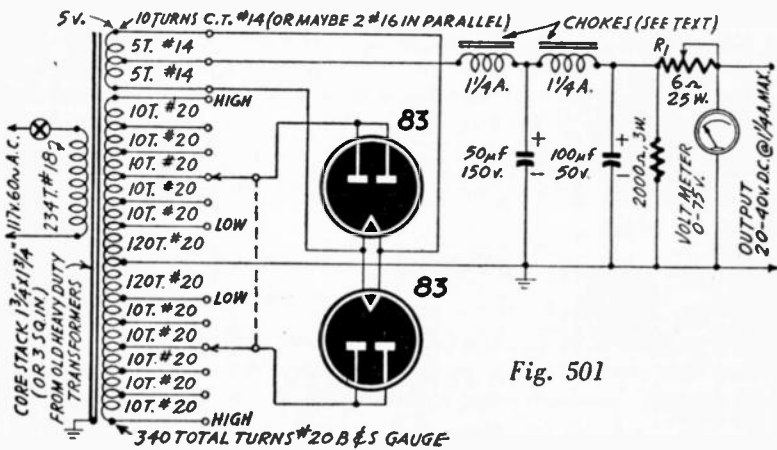

Fig. 501
A. Fig. 501 is a diagram of a 117-volt a.c. to 20-40-volt d.c. converter. Values are given in the diagram. It would be possible to omit the power transformer and apply the 110-volt a.c. directly to all four 83 plates